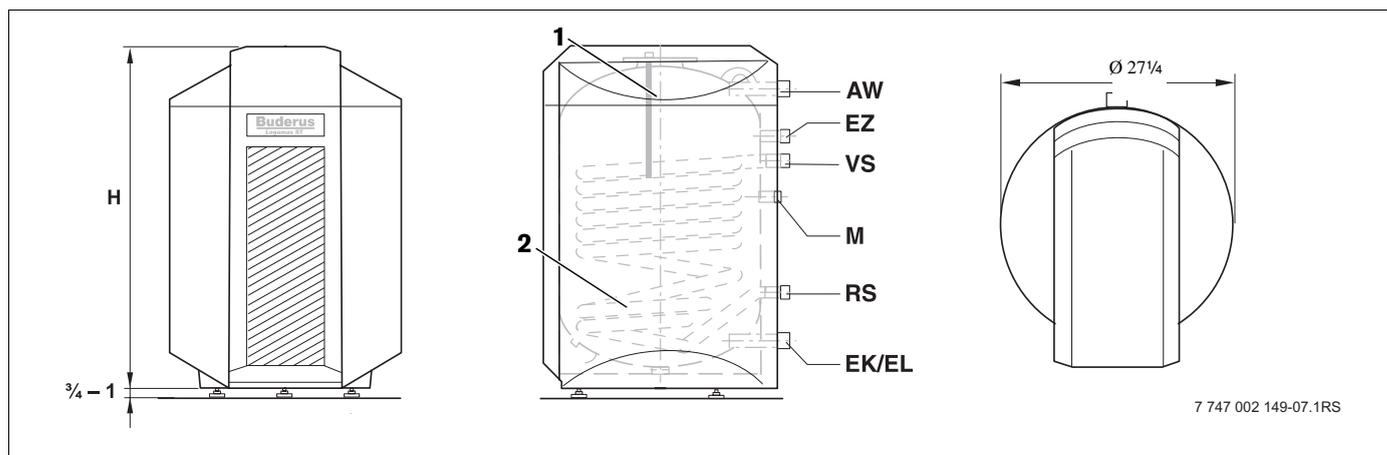

Fig. 2 Dimensions and connections (dim. in inches)
- Sensor well for installation of the DHW temperature sensor (Fig. 2, page 6, **M**)
Heat exchanger coil (Fig. 2, page 6) transfers the energy from the heating water to the DHW inside the tank. The tank content is evenly heated throughout.